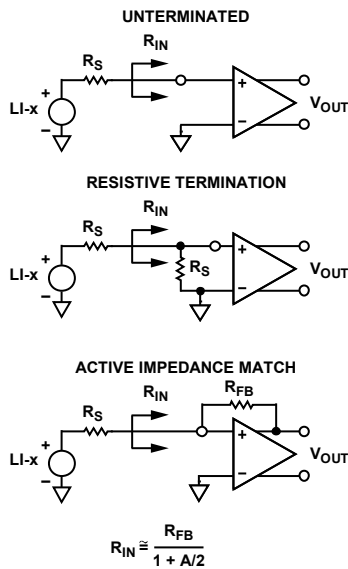

Figure 40. Input Configurations
The short-circuit noise voltage (input-referred noise) is an important limit on system performance. The short-circuit input-referred noise voltage for the LNA is  $0.85 \text{ nV}/\sqrt{\text{Hz}}$  at a gain of 21.3 dB, including the VGA noise at a VGA postamp gain of 27 dB. These measurements, which were taken without a feedback resistor, provide the basis for calculating the input noise and noise figure (NF) performance of the configurations shown in Figure 40.